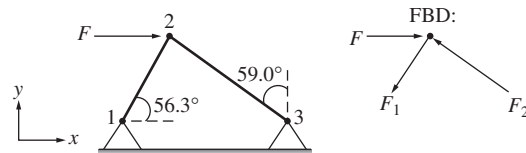

Figure P7.14 A 100 N force applied to a two-bar truss for problem P7-14.
- 7-14.** A force $F = 100$ N is applied to a two-bar truss as shown in Fig. P7.14. The forces F_1 and F_2 satisfy the following system of equations: